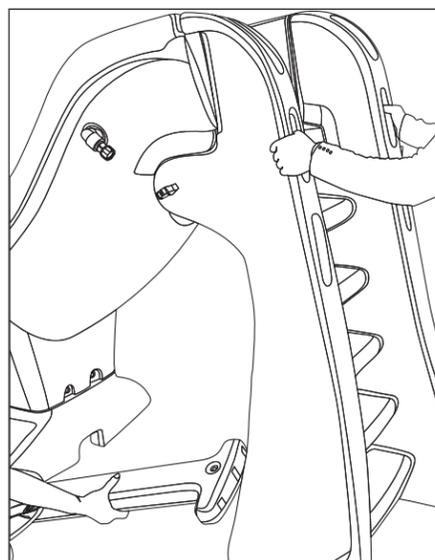
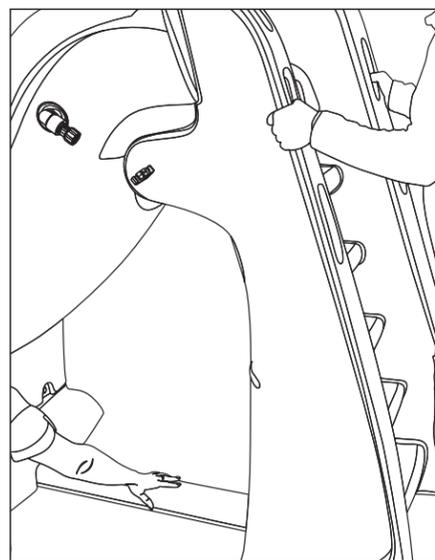

Figure 6
Figure 7
6. To insert brace, slightly lean SlideAway to one side using the ladder handles as shown in **Figure 6**. Slide the brace under the slide and lock firmly into place (**Figure 7**).
3. Insure proper installation of the support brace as instructed in **Slide Assembly Instructions** on page 10 (see **Figures 6** and **7**). The support brace must be installed prior to filling the ladder with water.